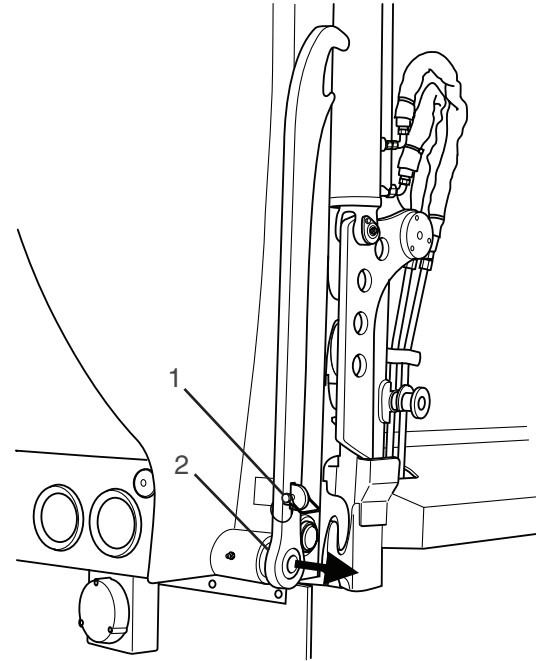

Figure 51
1. Remove the pin (Figure 51, Item 1) securing the props to the body.
2. Slide the props (Figure 51, Item 2) out away from the body.